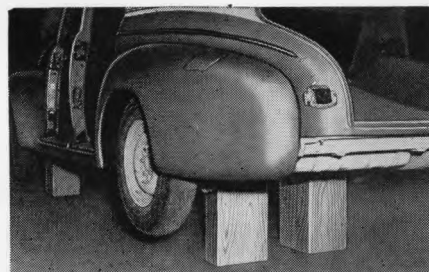

Fig. 3
1. Raise the complete car off the floor and place on blocks so that the under-body is on an even plane, Fig. 3.